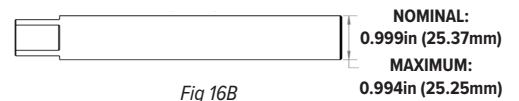

Fig 16B
2. Check for cracks or excessive wear on the shaft (item 5), impeller thrust ring (item 3A) and rear sealing ring (item 4C). Replace if cracked or excessively worn. See figures 16B, 16C, & 16D.
3. Check for signs of deformation or melting in the shaft support (item 2) and the barrier assembly (item 6) where the pump shaft is positioned. Dry running of the pump during initial start-up or operation will cause heat-related damage to these components.
4. Inspect the casing liner (item 1). It is important that there are no abrasions or cuts deeper than .04 inch in the lining. These cracks may occur if the lining is corroded or abraded. Liner damage can usually be detected visually. Some hairline cracks require an electrostatic discharge tester to detect.
5. Locate the impeller assembly (item 3). Make certain that there are no obstructions. If there is an obstruction or product build up in any of the flow paths, an imbalance will cause excessive vibration and wear on the pump shaft and impeller bushings.
6. Check the impeller drive assembly (item 4) for cracks or grooves larger than .02 inch. If a fluid comes in direct contact with the magnets, the magnets may swell, cause rubbing, and damage the barrier assembly (item 6).
7. Inspect the barrier assembly (item 6) for signs of abrasion. Replace the barrier assembly if there are grooves or scratches that are deeper than .04 inch.